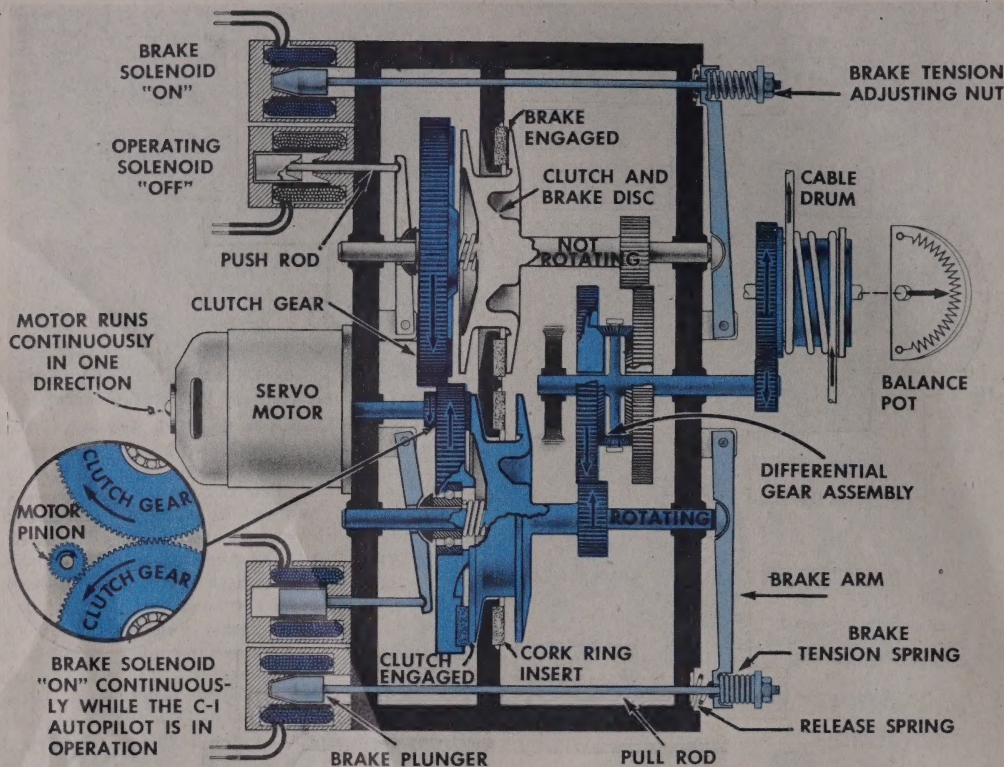

Fig. 78—Schematic Drawing (top view) of Servo Unit showing parts in operation
(3) FUNCTION OF SERVO UNIT PARTS—The operation of the Servo Unit can be best understood by carefully studying the accompanying illustrations. Fig. 78 is a schematic drawing (top view) of the entire unit showing the relationship of its various parts at a time when the unit is actually driving the airplane control surfaces. Note that the Servo motor, which supplies the power, is at the left of the illustration, and that its power is transmitted by the gear train to the cable drum at the right of the illustration. The direction of cable drum rotation is determined by which of the two operating solenoids is energized.
(a) SERVO UNIT DISENGAGED—As soon as the Autopilot is turned on by closing the *master switch* on the Autopilot Control Panel, the motors in all three Servo Units begin to run and continue running as long as the Autopilot is in use. Each motor drives two clutch gears in opposite directions, as shown in the inset circle, Fig. 78. These two clutch gears rotate freely on their operating shafts and no motion is transmitted to the clutch-and-brake discs which are in their neutral positions, as shown in Fig. 79. In this situation the clutch release spring, between clutch gear and clutch-and-brake disc, is holding the clutch gear away from the clutch disc, and the brake disc away from the cork surface on the brake ring. The pilot is easily able to operate the control surfaces manually because both clutch-and-brake discs are free to rotate in response to any pull on the control cables.